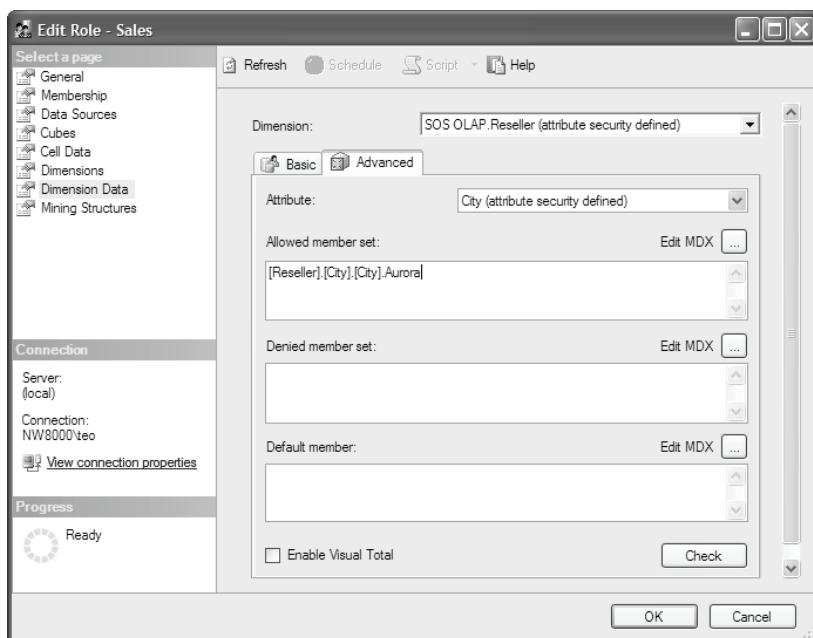

Figure 16.16 Use the Advanced tab to specify the allowed and denied sets with MDX set-producing expressions.
1. In the Advanced members set field, enter the following MDX expression (Figure 16.16).